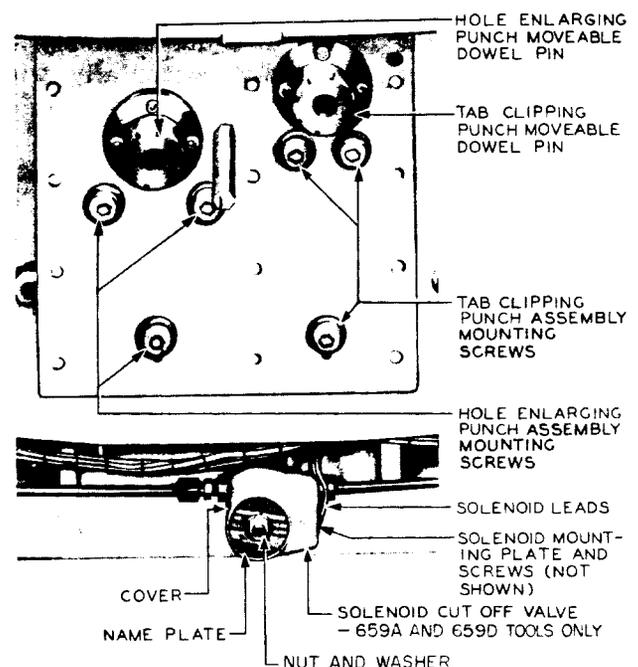

Fig. 19 - Punch and Die Assembly Mounting Details (underside of table)
(2) Working from the underside of the table, remove the punch and die assembly mounting screws and washers (Fig. 19) using the proper size Allen wrench. Manually lower the movable dowel pin until it is clear of the punch and die assembly by turning it counterclockwise three full turns. Use the R-2895 wrench to start the dowel pin if necessary.